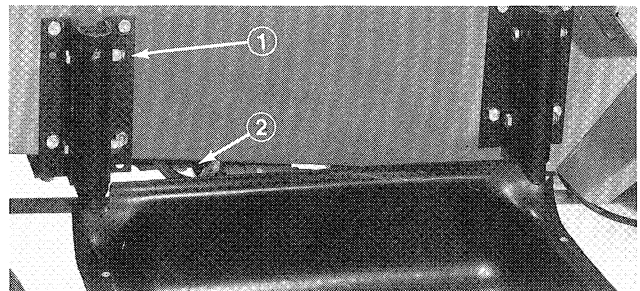

Figure 4
1. Mount lower support tube assembly to brackets with (4)  $\frac{3}{8}$ -16x2- $\frac{1}{4}$ " lg. capscrews and locknuts (Fig. 4).